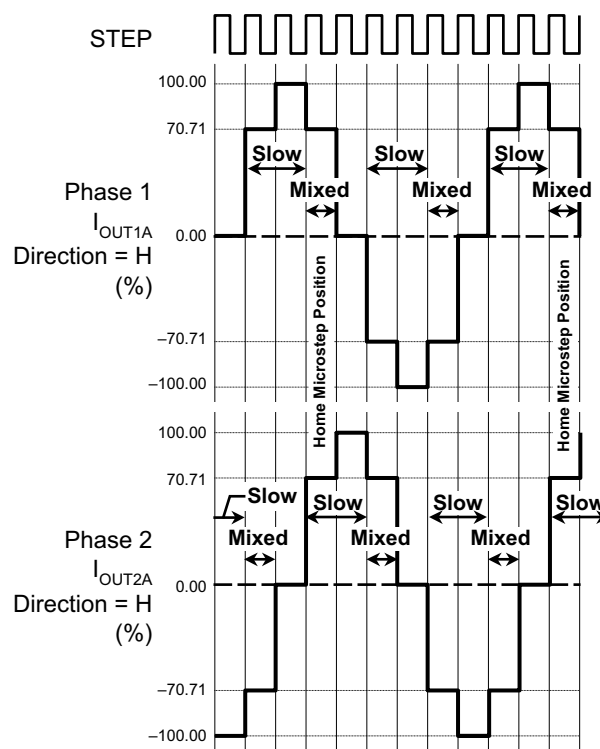

Figure 3. Decay Modes for Half-Step Increments
**Mixed Decay Operation.** The bridge can operate in Mixed Decay Mode, depending on the step sequence, as shown in figures 3 thru 5. As the trip point is reached, the A3982 initially goes into a fast decay mode for 31.25% of the off-time,  $t_{\text{OFF}}$ . After that, it switches to Slow Decay Mode for the remainder of  $t_{\text{OFF}}$ .